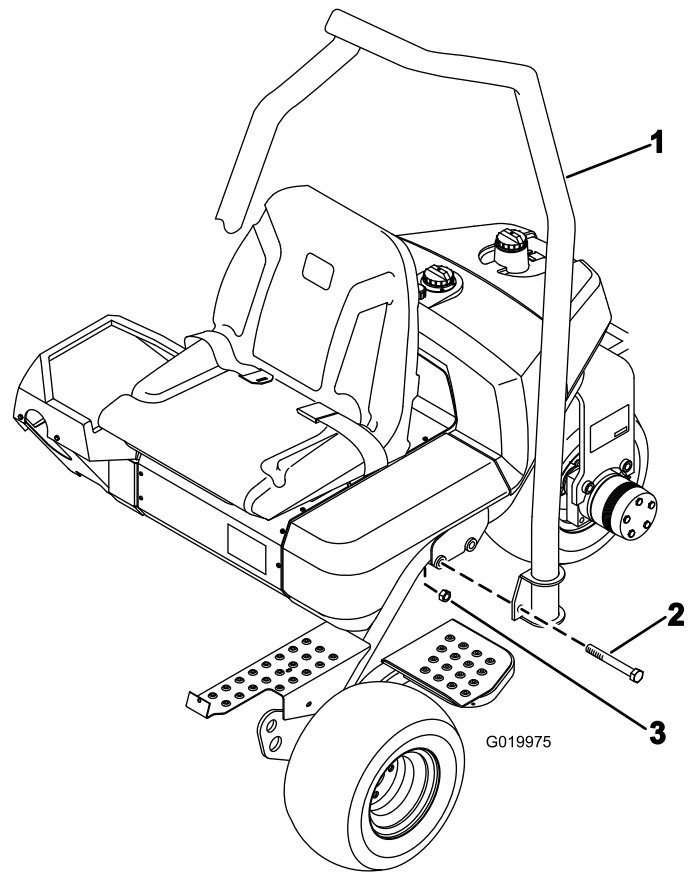

Figure 4
1. Position the roll bar so the top of the tube is curved toward the front of the machine (Figure 4).
2. Lower the roll bar onto the frame, aligning it with the mounting holes (Figure 4).
3. Secure each side of the roll bar to the frame with 2 bolts (5/8 x 4-1/2 inches) and locknuts as shown in Figure 4.